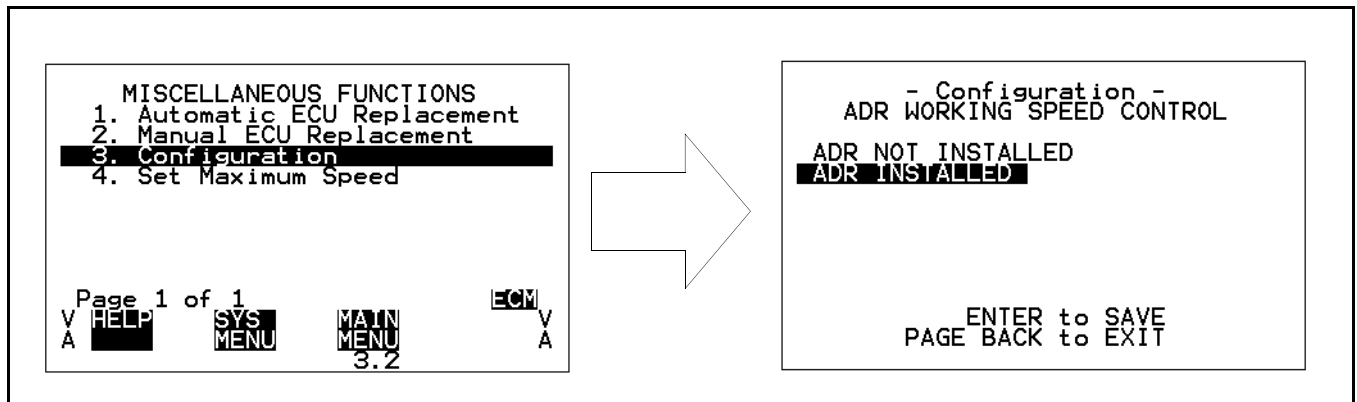

Figure 23 Selecting Configuration
2. Select Configuration in the Miscellaneous Functions screen. When asked, select ADR Installed (Figure 23).